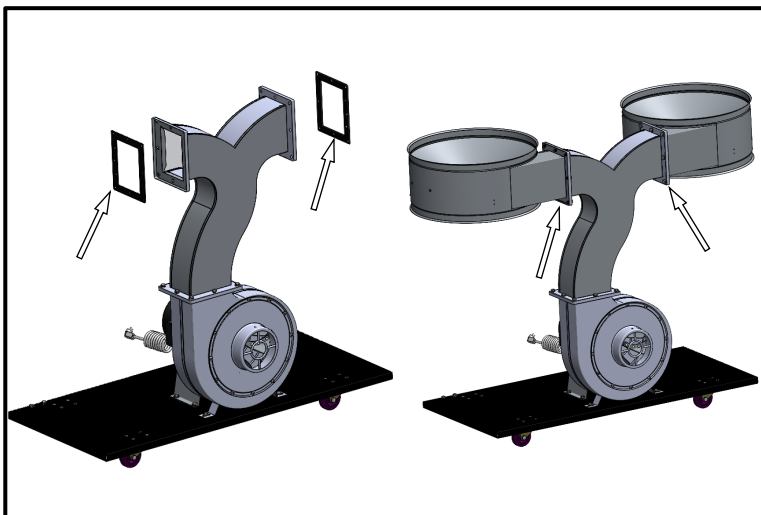

Fig 5
Next install the two collectors (C) two packing (I) to the outlet as shown in Fig5.